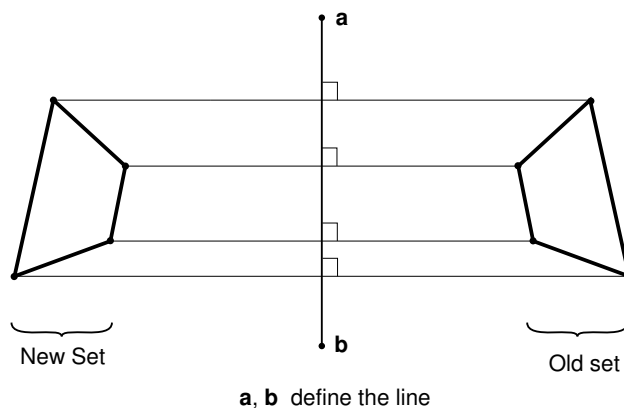

Figure 2: *NCOPY, REFLECT=LINE option.
1. X -coordinate of the first point defining the reflection line (point a in Figure 2).
4. X -coordinate of the second point defining the reflection line (point b in Figure 2).